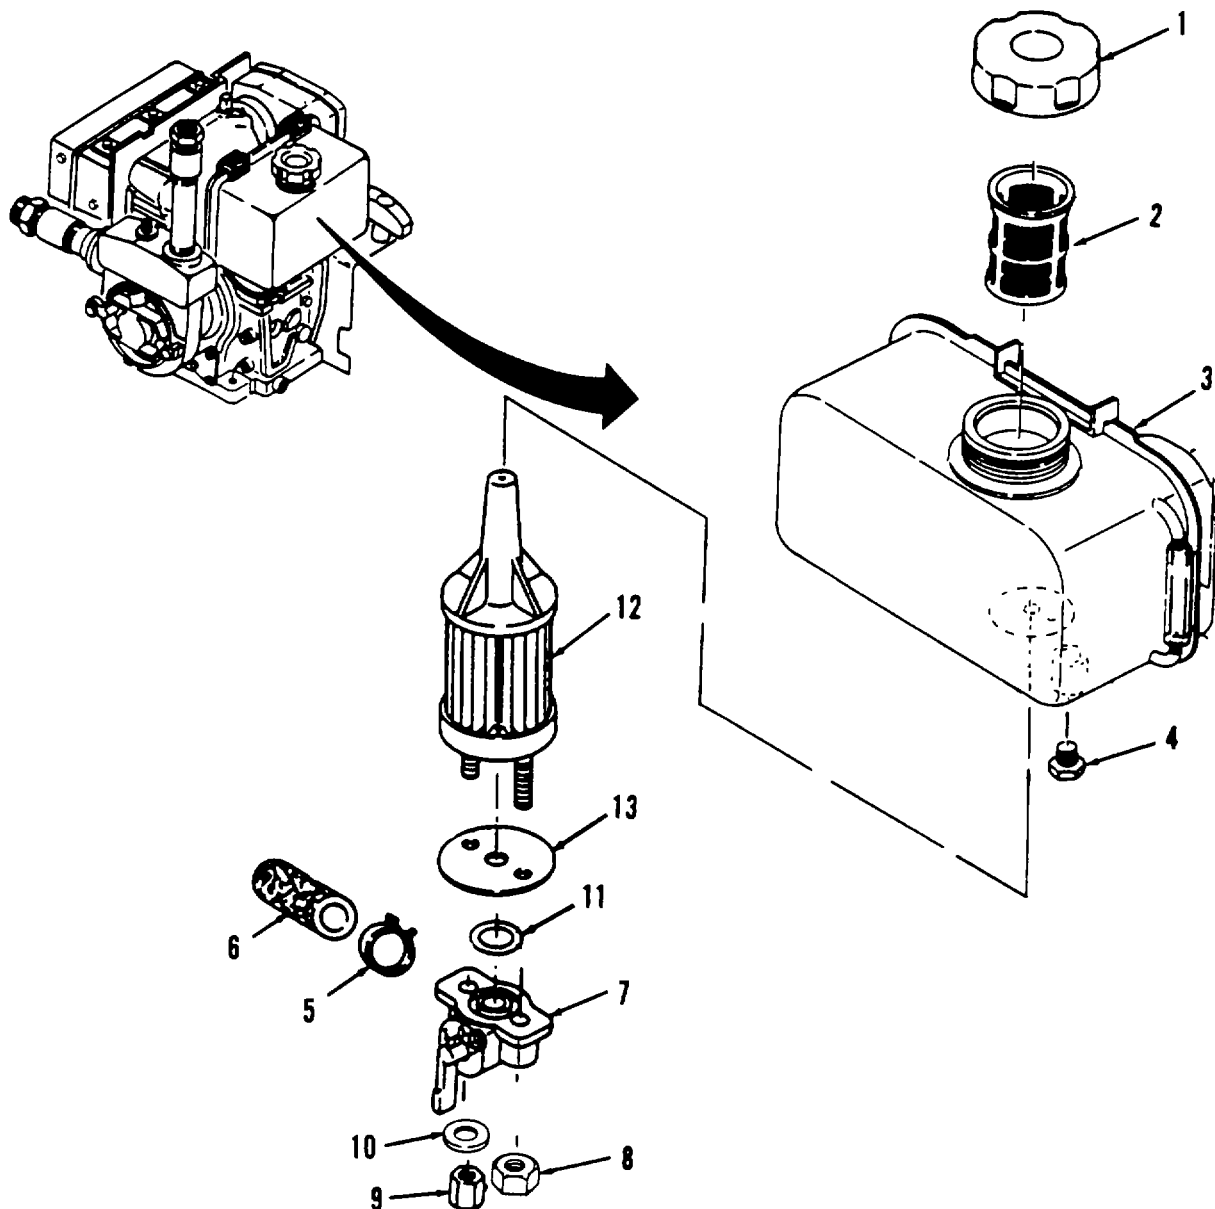

Figure 4-21. Fuel Cock and Fuel Filter, Outlet Replacement.
a. Removal (Refer to Figure 4-21).
- (1) Remove fuel tank cap (1) and strainer (2).
- (2) Drain all fuel from fuel tank (3) by removing drain plug (4) at bottom of the tank. Dispose of fuel per FM 10-69.
- (3) Loosen clamp (5) and remove fuel line hose (6) from fuel cock (7).
- (4) Remove nut (8), nut (9), and washer (10) securing the fuel cock to studs on the tank, and remove fuel cock (7).
- (5) Remove O-ring (11) from fuel cock (7). Discard O-ring.
- (6) Remove fuel filter (12) and gasket (13) from inside of fuel tank (3).